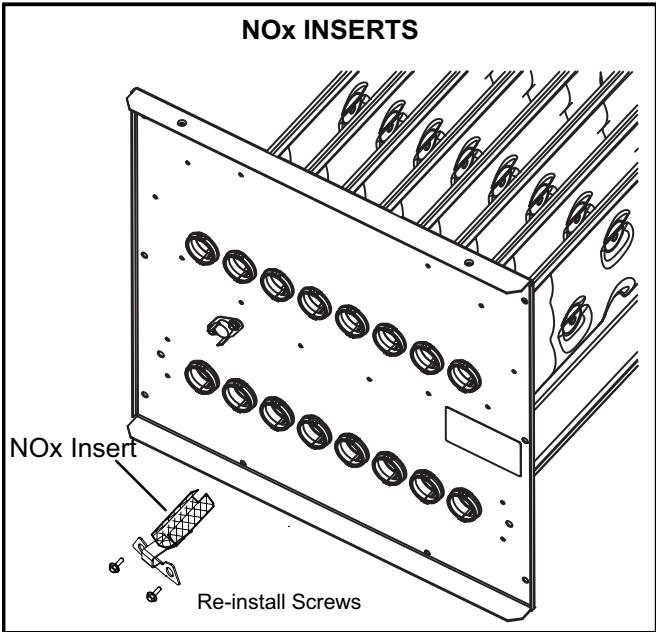

FIGURE 1
- b - Remove the screws which secure each of the NO_x inserts to the clamshell. **Remove the NO_x inserts and reinstall the screws. See figure 1.**